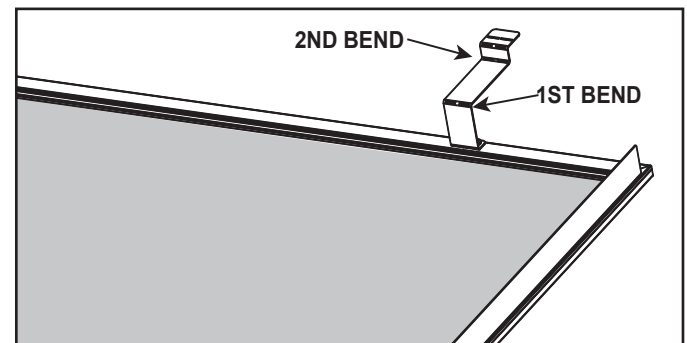

Figure 4. Bend Top Brackets
2. Bend top bracket as shown in Figure 4.